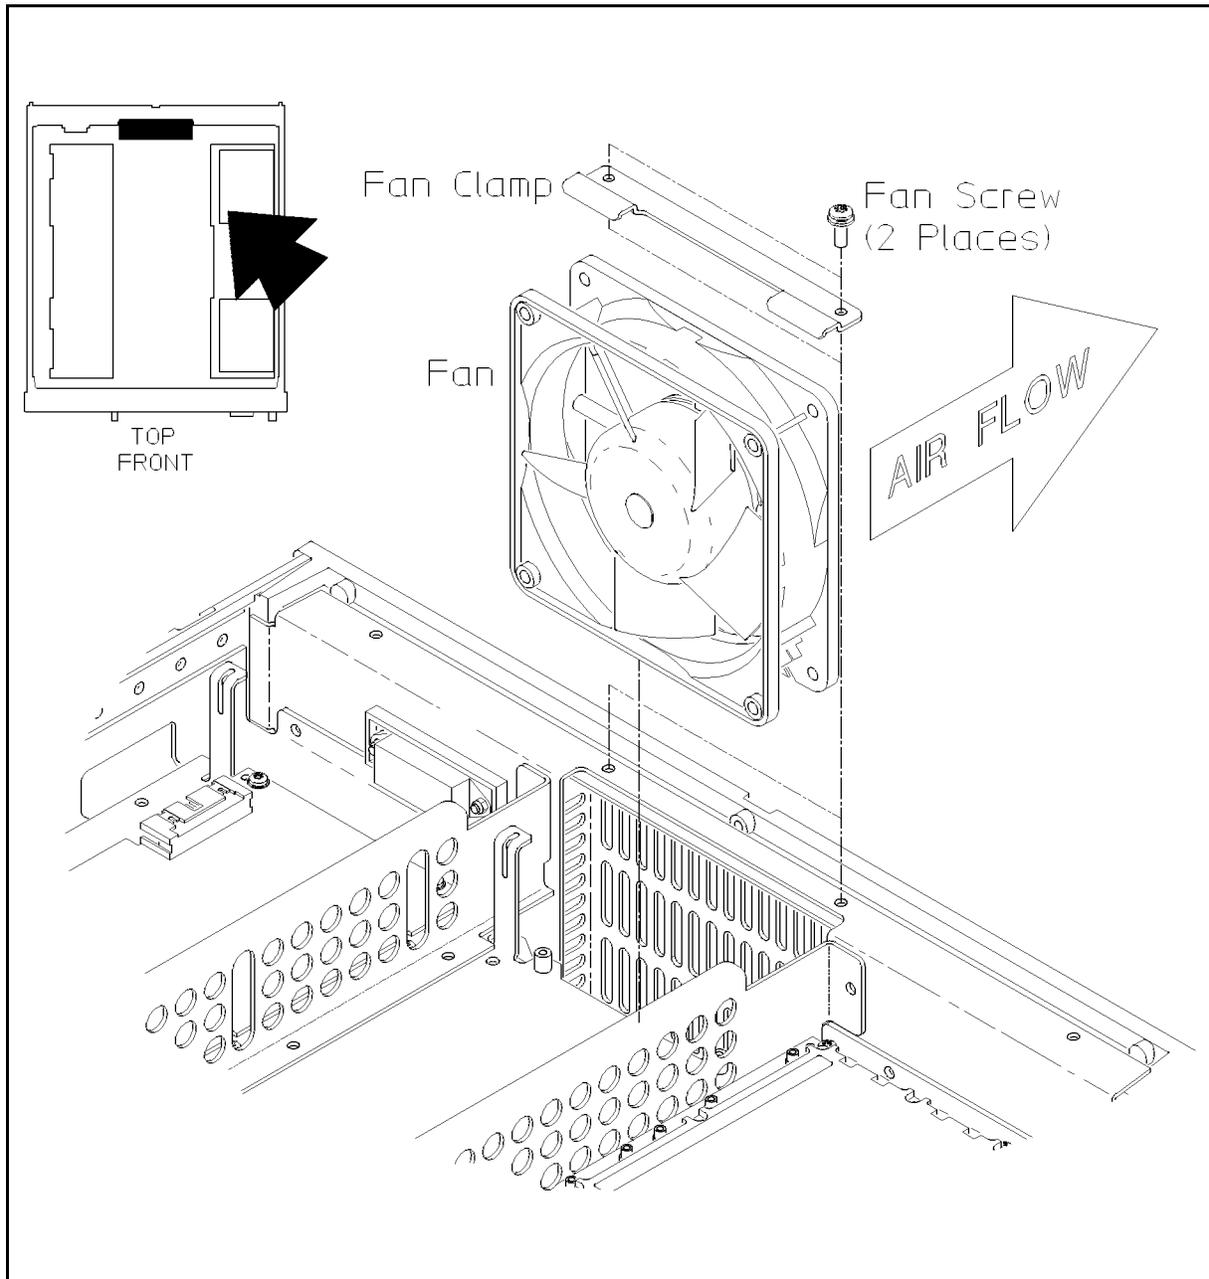

Figure 5-12. Fan Assembly Removal
1. Using a size 10 TORX® driver, remove the two screws from the fan clamp which holds the Fan assembly in place. See Figure 5-12.